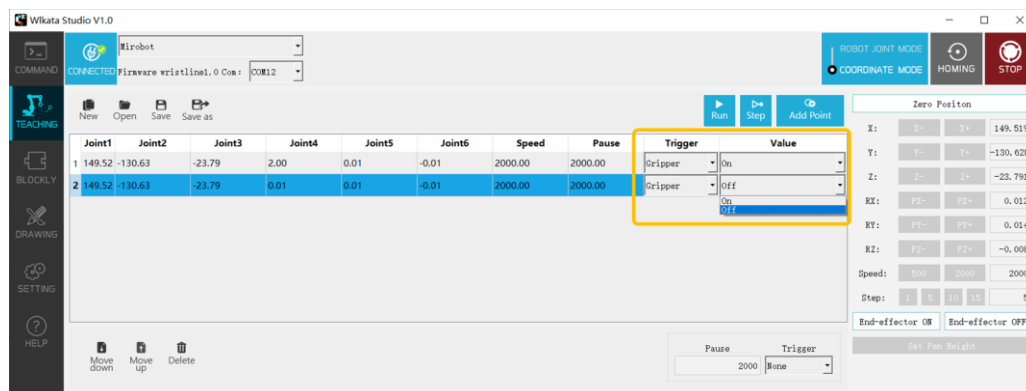

Figure 3.32 Controlling the gripper in the TEACHING function
- In the TEACHING page, control the gripper by editing the **Trigger** cell and **Value** cell of the teaching point line. Figure 3.32